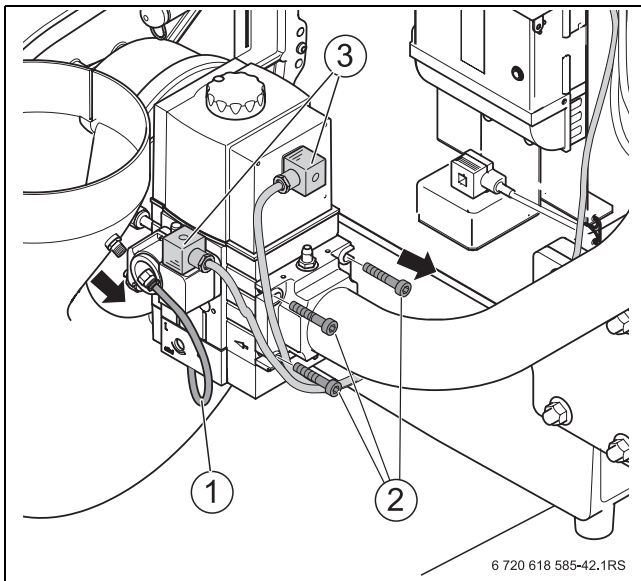

Fig. 56 Undoing the gas valve connections
- ▶ Undo the electrical connections at the gas valve and the fan (→ Fig. 56, page 48).